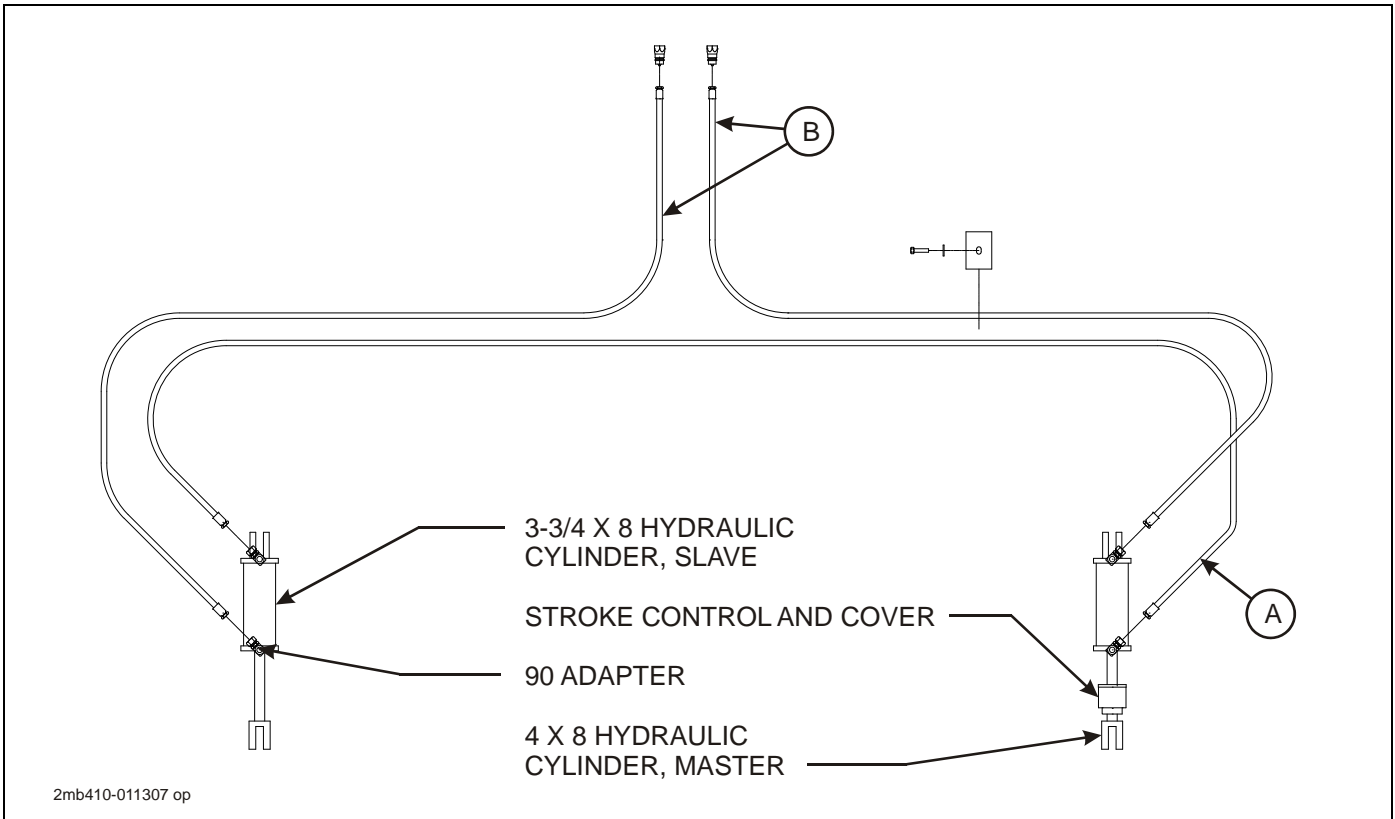

Figure 3-6: Hydraulic Lift Assembly - Rigid Models
6. Install hoses (**See Figures 3-6 and 3-7 and Table 3-1**).